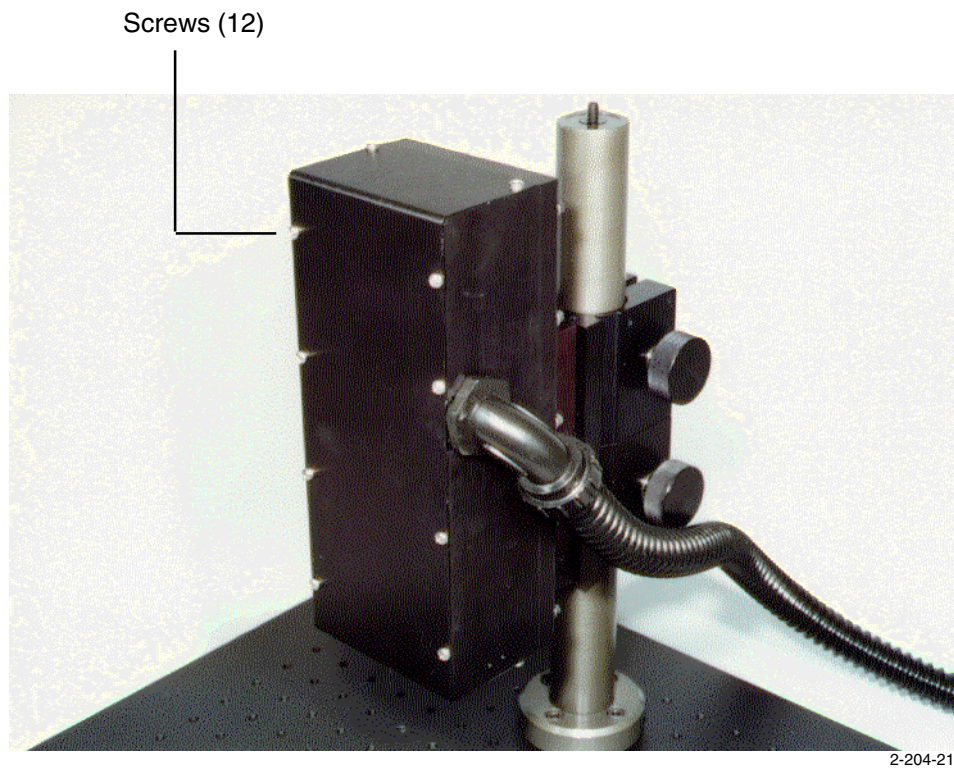

Figure B.1 Drive Mechanism Assembly Cover Removal
- Step 1 Power down the unit. Remove the cover from the drive mechanism assembly (12 screws, Figure B.1). The force transducer CCA is located on the left side of the drive mechanism.